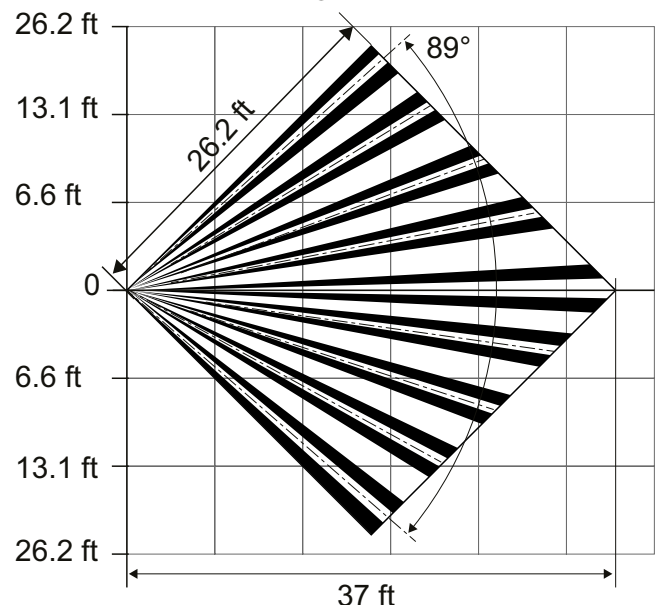

Figure 3 EN1262HT detection coverage area
4. Noting the detection coverage in Figure 3, determine mounting location.